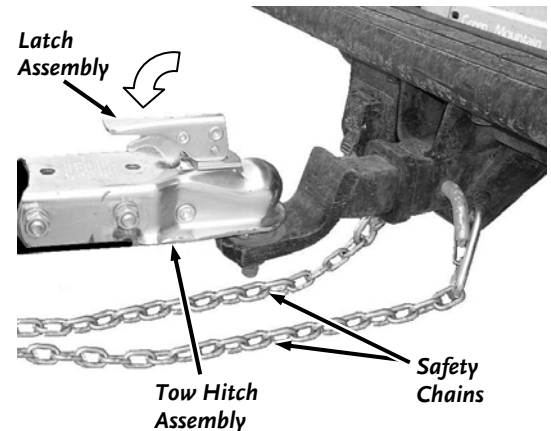

Figure 42
25. Close the Latch Assembly on the Tow Hitch Assembly to lock the Tow Hitch Assembly onto the Tow Ball (**Figure 42**). Attach the towing Safety Chains to the tow vehicle ensuring there is enough slack for turning.